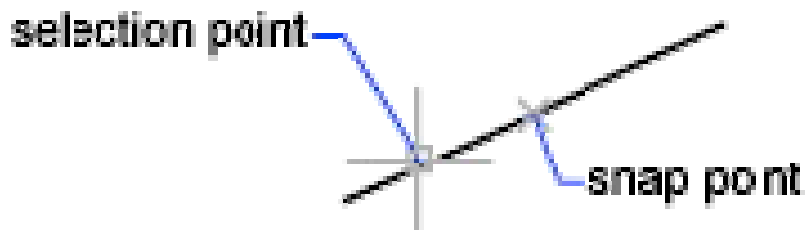

Figure 7.8 – Midpoint
*Midpoint* (fig. 7.8) snaps to the midpoint of an arc, ellipse, elliptical arc, line, multiline, polyline segment, region, solid, spline, or xline.